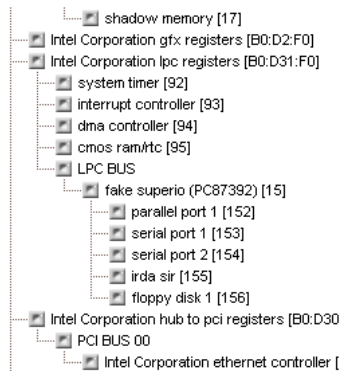

Fig. 5 – Delete unwanted sub-tests after adding a new test.
- e. Having added the test for the device, it may be necessary to delete sub-tests if some of the device’s functions are not implemented. For example, figure 5 shows that the newly added Super I/O test includes sub-tests for a parallel port, 2 serial ports, an IrDA SIR port and a floppy disk. If any of these are not present, the sub-tests must be removed (see point 2 below).
- a. Click the “Edit Mode” button at the top of the Test Script window, if this is not already selected (fig. 5).